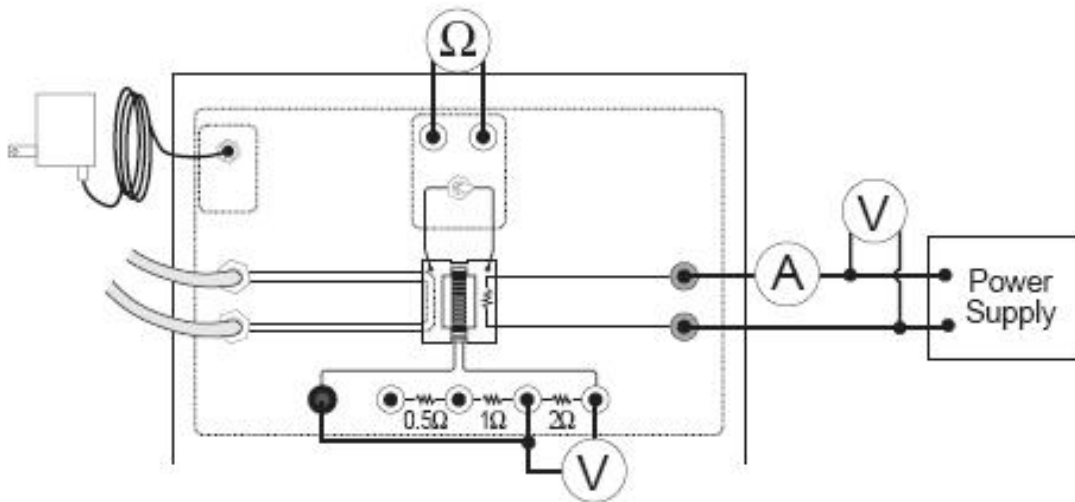

Figure 21A.1
5. Connect the 2Ω load resistor with a short patch cord as shown in Figure 21A.1. Connect a voltmeter across the load resistor. The choice of the 2Ω load resistor is arbitrary. Any of the load resistances may be used.